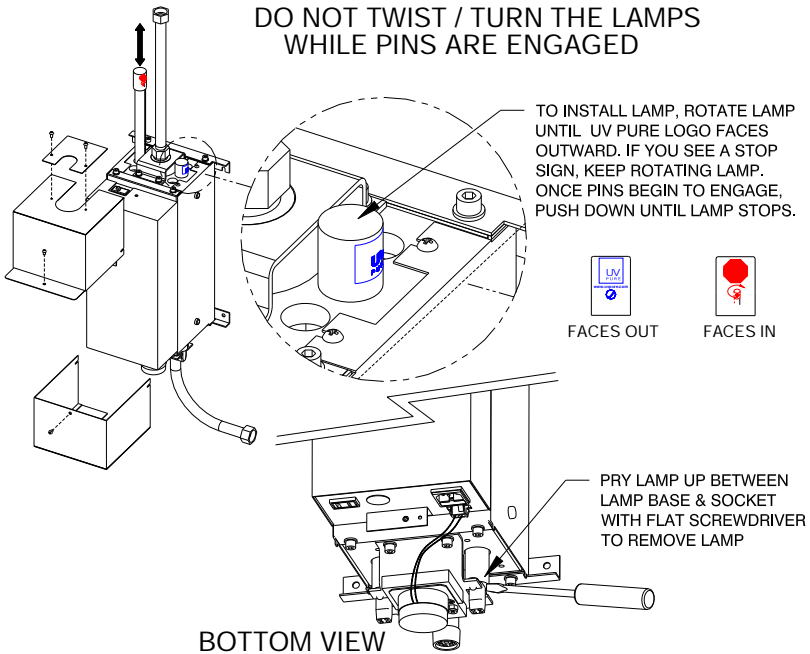

Figure 3
The lamps can be replaced in a few minutes. Draining the unit is not required. See Figure 3.
Step 3: Slowly lift the old lamps out of the unit. **Do not twist the lamps when they are installed.** For assistance in this task, use a flat screwdriver and pry the lamps between their base and the socket to disengage the pins (see Figure 3). Dispose of the old lamps in the same way as you would dispose of ordinary fluorescent tubes. Note that old lamps should be disposed of at a household waste management depot or transfer station; contact your local recycling and
Step 4: Install the new lamps into the unit, being careful not to touch the bulb. Ensure that the lamps are aligned with the "Stop Sign" printed on the top ceramic facing inward (towards quartz sleeve). If you can see the stop sign, the lamps are backward (See Figure 3).